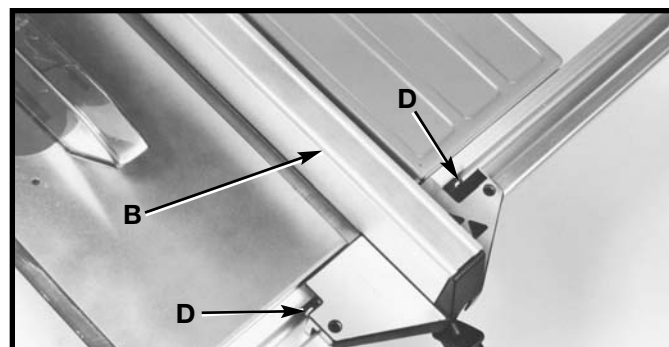
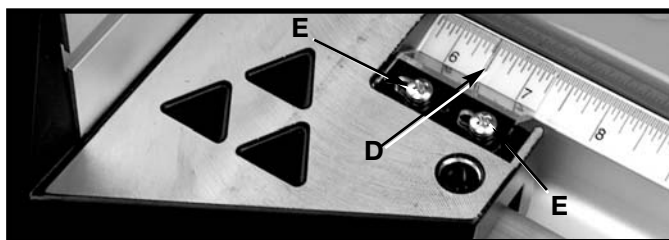

Fig. 57A
Fig. 58
4. If a **parallel** adjustment is necessary, **tighten or loosen either of two screws (D) Fig. 57A** until the fence (B) is **parallel** to the miter gage slot. **NOTE:** It will be necessary to remove the cursor (D) Fig. 58, to make this adjustment. Readjust the clamping action on the fence; if necessary, refer to **STEP 1**. Re-assemble the cursor.
5. Depending on the type of saw blade being used, the cursor (D) Fig. 58, may need adjustment to compensate for the blade thickness. To adjust the cursor, make a test cut on a piece of lumber and measure the finished cut, or you can place the rip fence against the blade as shown earlier in the manual. If an adjustment is necessary, loosen two screws (E) Fig. 58, and move the cursor (D) as necessary and **tighten securely**.